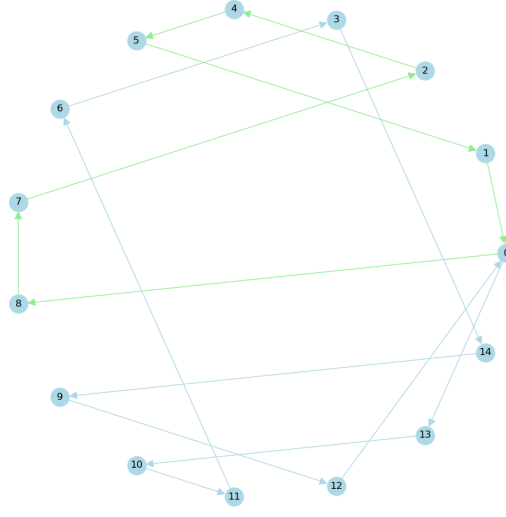

Figure 5: Visualization of Vehicle Routes
- 7. Solve the problem and print the solution. As figure 5.